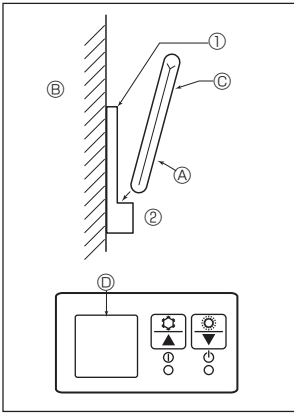
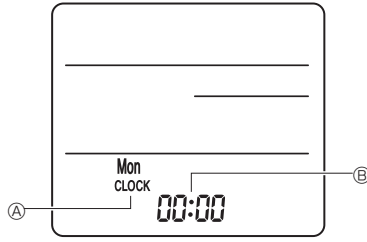

Fig. 6-8
Fig. 6-9
2) Installation method (Fig. 6-8)
- ① Attach the remote controller holder to the desired location using 2 tapping screws.
- ② Place the lower end of the controller into the holder.
3) Setting (Clock setting) (Fig. 6-9)
- ① Insert batteries or press the ● CLOCK button with something sharp. [CLOCK] Ⓐ and [:] Ⓑ blinks.
- ② Press the RESET ● button with something sharp.
- ③ Press the ⏴ button to set the time.